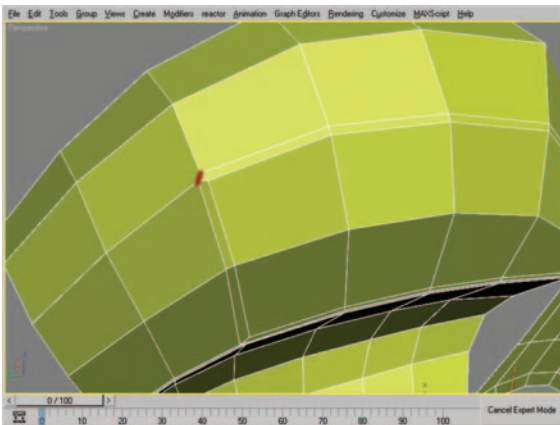
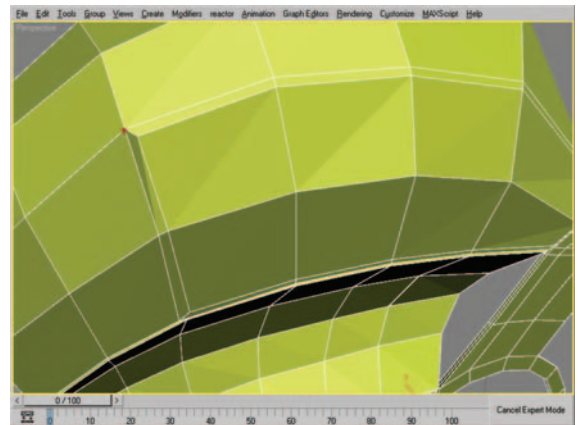

Figure 8.41 Edge selected; the edge is part of a Tri N-gon.
Figure 8.42 Mesh after using Collapse on the edge selection.
43. At the Edge subobject level, select the edge seen in Figure 8.41 and use Collapse to eliminate it and the Tri (Figure 8.42).